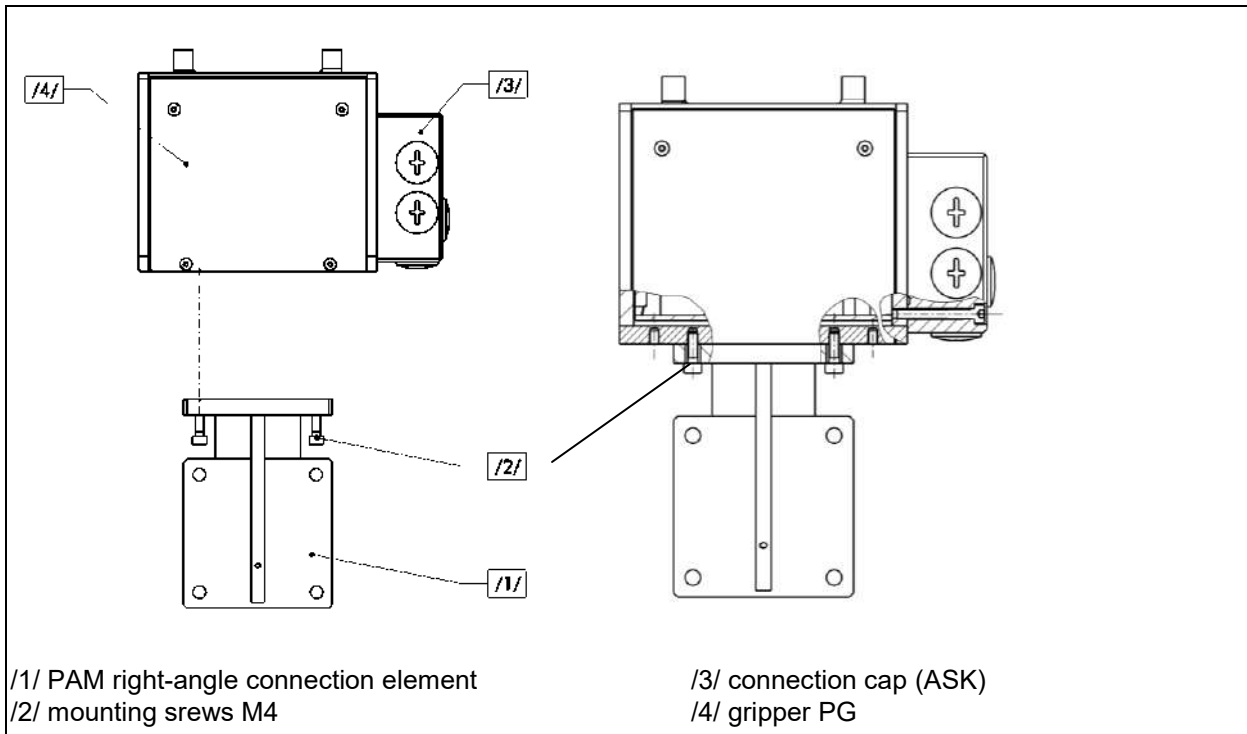

Figure 7 Mounting of the module with PAM right-angle connection element
- ➔ Observe the tightening torque of the screws (see Figure 7, page 20)